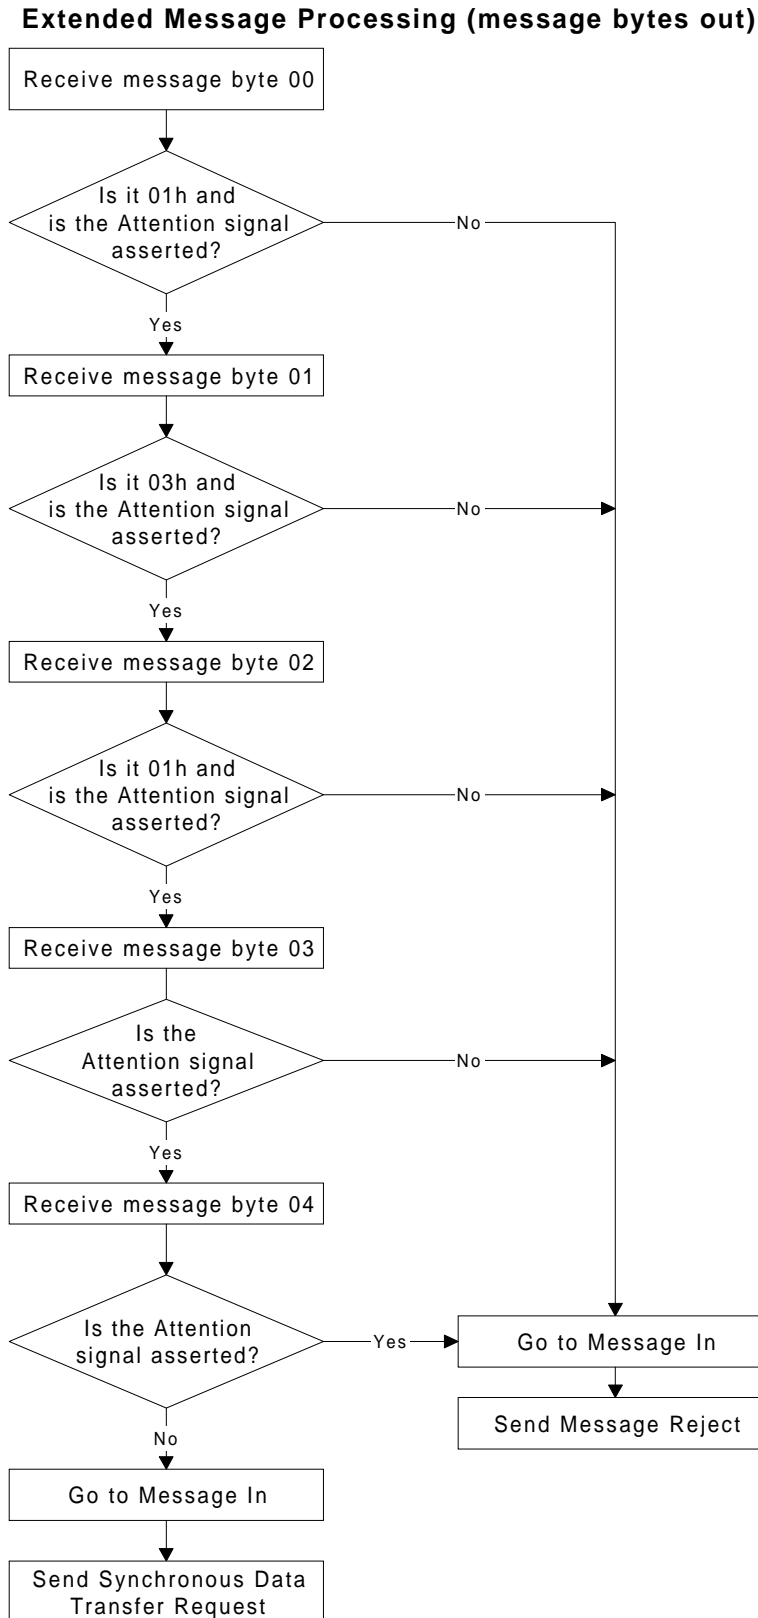

Figure A-6 Message processing of Extended Message Out bytes
Figure A-6 shows how Extended Message Out messages are processed. Note that the Attention signal must coincide with the message byte numbering sequence. The tape drive responds to the initiator's Synchronous Data Transfer Request with a transfer period of *xx* or 19h (100 nanoseconds), whichever is larger (slower), and a REQ/ACK offset of *yy* or Fh (15), whichever is smaller.